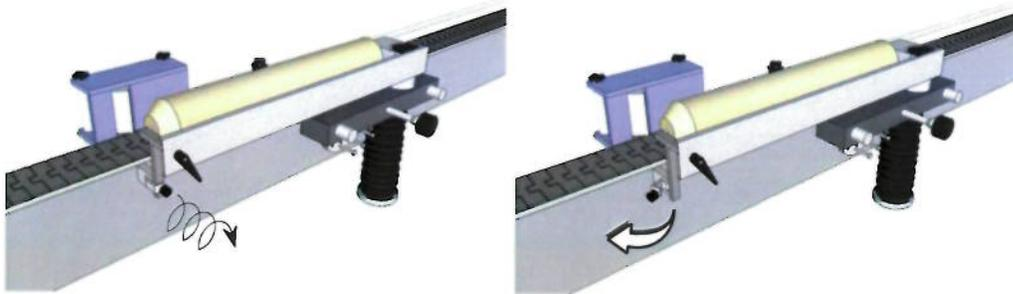

fig.2
- unscrew the pull-out handle by rotating it counterclockwise (fig.2):